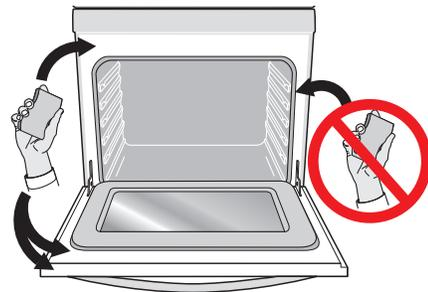

Figure 38: Clean around the oven door gasket
9. Wipe oven cavity and bottom. Do not clean oven door gasket (Figure 38).
- Do not clean the oven door gasket. Take care not to rub, damage, or remove the gasket or use any cleaning substances on the oven door gasket (Figure 38). Doing so could cause damage and reduce the efficiency of the oven's performance.